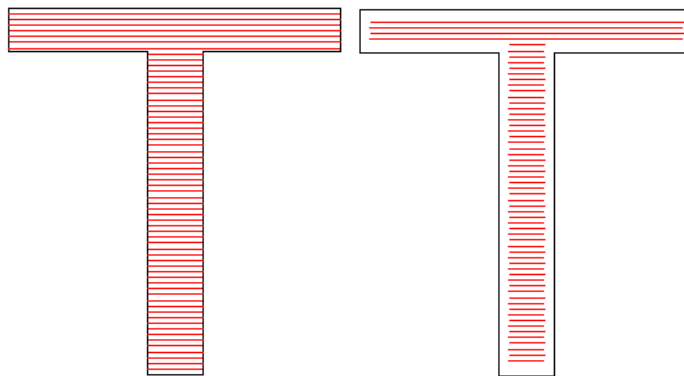

Figure 3-7 Border Distance
**Edge offset:** the distance between hatch lines and the object's outline (Figure 3-7)